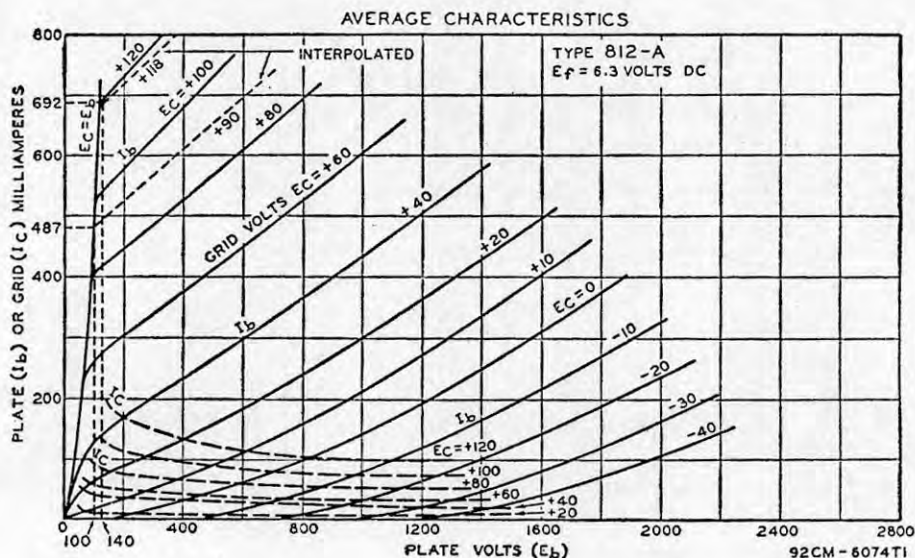

Fig. 45
(1) From the published data for the 812-A, the maximum plate-input rating is 260 watts. The dc plate current (I_b) required to provide this input at a plate voltage, (E_b) of 1500 volts is $I_b = 260/1500 = 0.173$ ampere, or 173 milliamperes.
(2) From Table I, K_1 for a conduction angle of 140 degrees is 4. Therefore, peak plate current (i_{bmax}) = $0.173 \times 4.00 = 0.692$ ampere, or 692 milliamperes.
(3) The average characteristics curves given in Fig. 45 show that a peak plate current of 692 milliamperes is obtained at a peak positive grid voltage (e_{cmax}) of 118 volts and an effective minimum plate voltage (e_{bmin}) of 140 volts.
(4) From Table I, K_2 for a conduction angle of 140 degrees is 0.862. Therefore, power output (P_o) = $0.862 \times (1500 - 140) \times 0.173 = 203$ watts (approx.).
(5) Plate dissipation (P_p) = $(1500 \times 0.173) - 203 = 57$ watts (approx.)
(6) From Table I, K_3 is 0.520. From the published data, the amplification factor μ is 29. Therefore, the dc grid voltage or bias (E_c) = $-[0.520 \times (118 + 140/29) + 1500/29] = -[0.520 \times (118 + 4.8) + 52] = -(64 + 52) = -116$ volts.
(7) Peak rf grid voltage (E_g) = $-(-116) + 118 = 234$ volts.
(8) From the average characteristics curves shown in Fig. 45, for e_{cmax} of +118 volts and e_{bmin} of 140 volts, peak grid current (i_{cmax}) = 195 milliamperes (approx.).